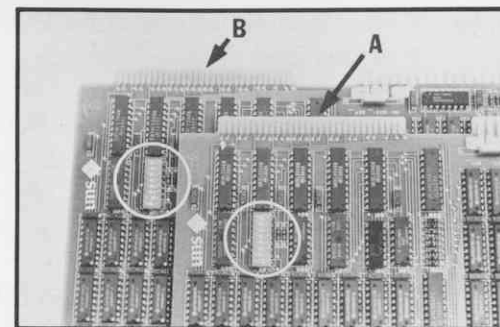

Figure 84 Low Power 1 mB Memory Board
6.17 See figure 84 to identify the LOW POWER 1 mB memory board(s) included in your Upgrade Kit. If your system has 2 mBs of main memory, the Upgrade Kit should include two low power memory boards.
6.18 Note the switches at the position marked U506 on the low power memory board(s) in Figure 84.